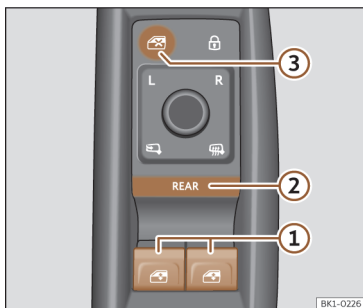

Fig. 80 Detail of the driver's door: window controls.
- 3 Button to deactivate the power window operation buttons on the rear doors. By default, the power windows on the front doors can be operated with the buttons >>> Fig. 80 1.
REAR Briefly press button >>> Fig. 80 2 to activate the operation of the rear door power windows. When the operation of the rear door power windows is activated, the button's light is on.
Press the button >>> Fig. 80 3 to deactivate the power window buttons located on the rear doors. When these buttons are deactivated the button light turns out.